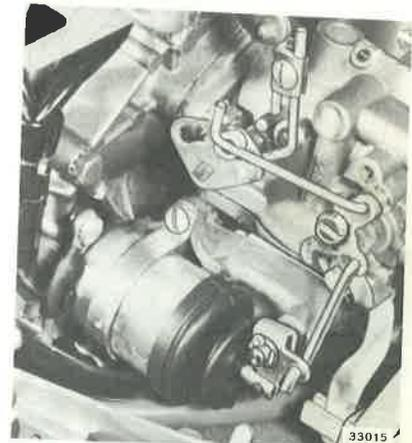

Figure 3-18A. Choke Solenoid
d. Electric solenoid for choke should operate freely and be positive in action. Linkage to be free of lost motion, when choke is in "open" position. See Figure 3-18A.